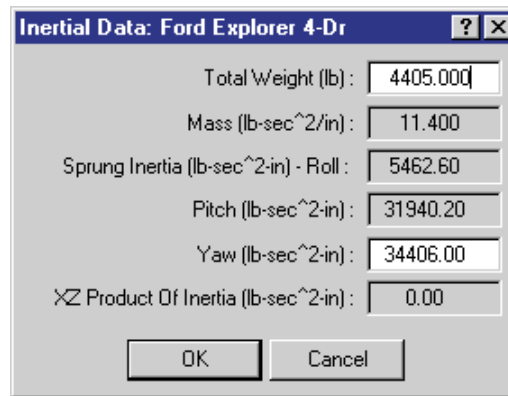

Figure 5-4 Vehicle Inertias dialog, used for editing the current weight and yaw inertia. The values in this dialog are customized for this simulation.
- Click on the CG and choose *Inertias*. The Inertias dialog is displayed (see Figure 5-4), and we're ready to change the vehicle's weight.